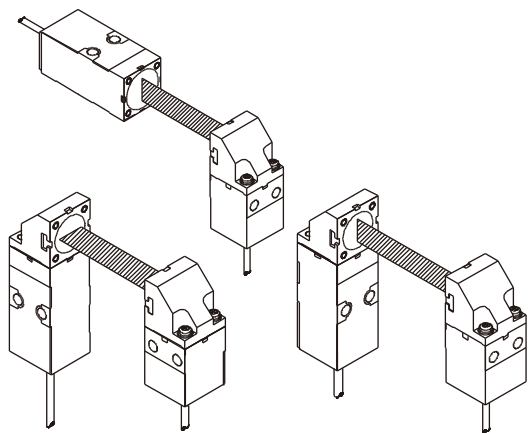

Figure 1
- 本アタッチメントは投光部、受光部いずれか一方のみの装着でも使用いただけます。(図1)
【図1】
- (1) Do not subject a Side-view Attachment to strong shock.
- (2) A Side-view Attachment can be mounted to the Emitter, to the Receiver, or to both. (See Figure 1.)
- (3) Cleaning